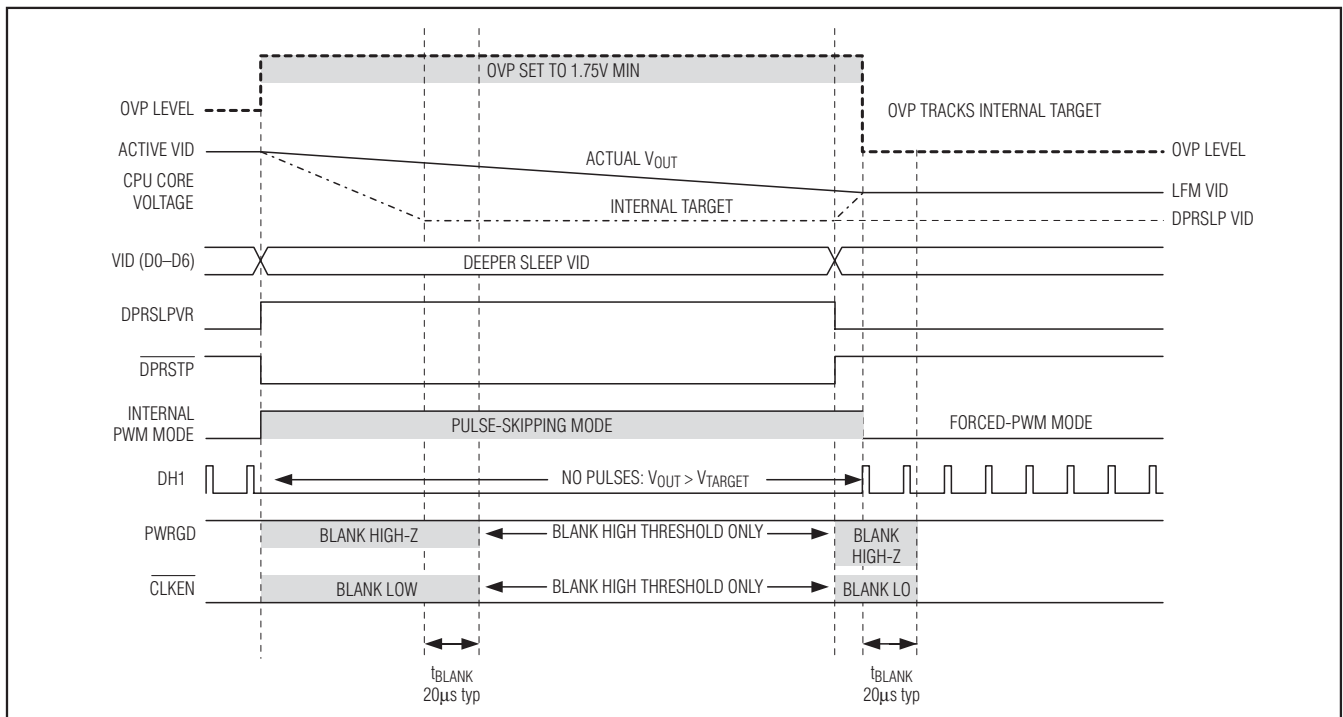

Figure 5. IMVP-6 C4E (C4 Early Exit) Transition
When DPRSLPVR goes high, the MAX8796/MAX17401 immediately enter pulse-skipping operation (see Figures 5, 6, 7). If the VIDs are set to a lower voltage setting, the output drops at a rate determined by the load and the output capacitance. The internal target still ramps as before, and the upper PWRGD threshold remains blanked high impedance until the output voltage reaches the internal target:
- Fast C4E deeper sleep exit:** When exiting deeper sleep (DPRSLPVR pulled low) while the output voltage still exceeds the deeper sleep voltage, the MAX8796/MAX17401 quickly slew (50mV/ μs min regardless of R_{TIME} setting) the internal target voltage to the DAC code provided by the processor as long as the output voltage is above the new target. The controller remains in skip mode until the output voltage equals the internal target (until the first on-time is triggered by the error amplifier). Once the internal target reaches the output voltage, switching begins and the controller is allowed to enter forced-PWM mode. The controller blanks PWRGD and CLKEN (forced high impedance) until 20 μs after the transition is completed. See Figure 5.